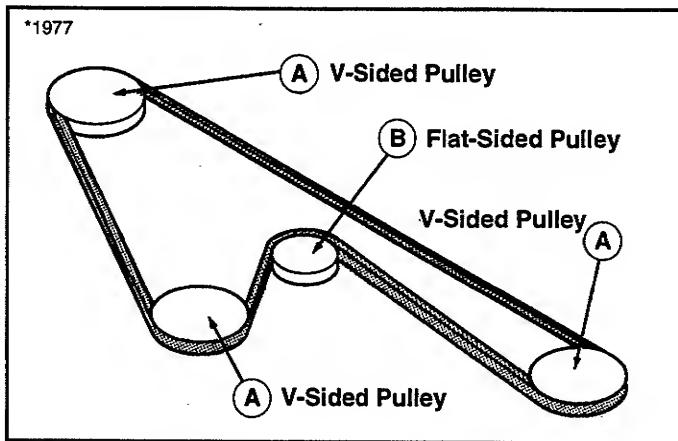

Figure 39. Mower Arbor Belt Routing
- Install new belt as shown in figure 39. Make sure that V-side of belt runs in arbor pulley grooves and flat side of belt runs against idler pulley.